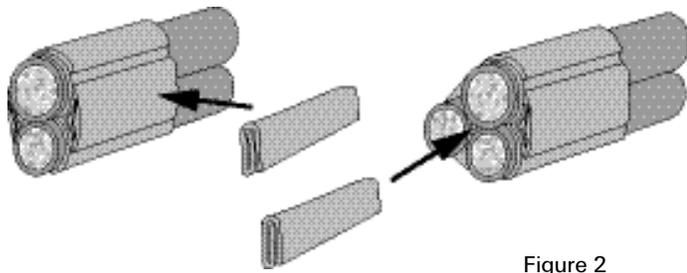

Figure 2
2. For branch ends, cut and fold two 2" strips of sealant. Press the branch cable sealant collar against the main cable sealant collar, then place one folded strip on each side of the branch area as shown. Compress the sealant to eliminate voids. If you have 3 cables out, arrange them in a triangle shape, and be sure to place a folded strip of sealant in the middle of the triangle. (Figure 2)